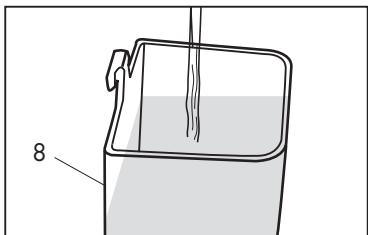

Fig. 2
- Fill the tank to the maximum level (1.8 l). (**Fig.2**)